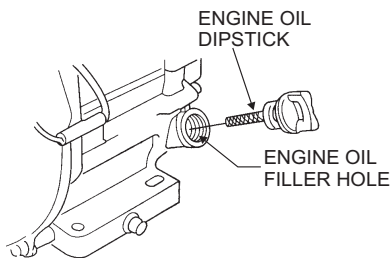

Figure 4. Engine Oil Dipstick
2. Remove the filler cap/dipstick from the engine oil filler hole (Figure 4) and wipe it clean.